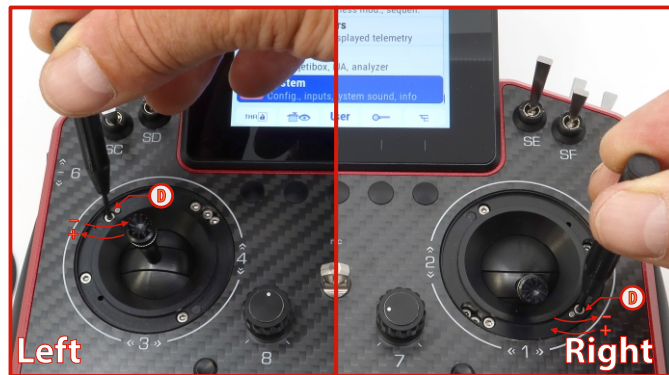

Fig. 6.09
- Turning the screw clockwise increases the force of the spring, resulting in greater resistance when moving the gimbal in this axis (see Fig. 6.09).
- Turning the screw counterclockwise decreases the force of the spring, resulting in less resistance when moving the gimbal in this axis (see Fig. 6.09).